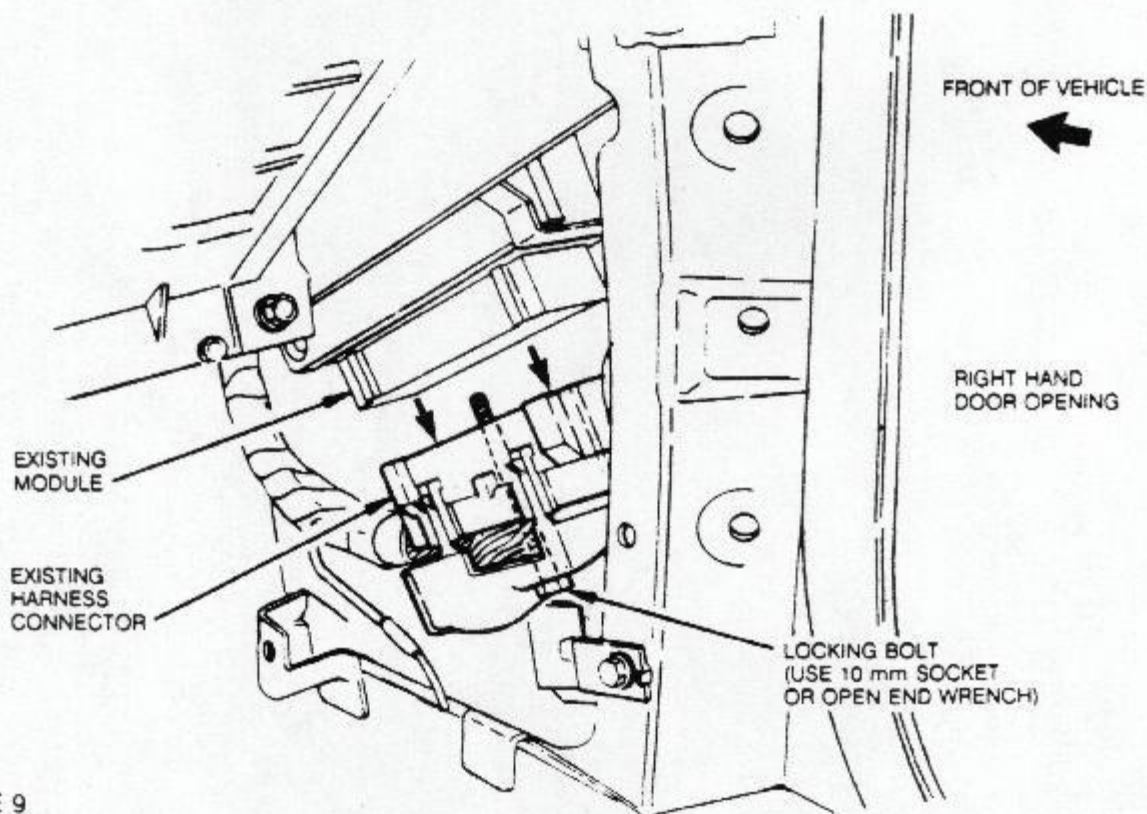

FIGURE 9
STEP 12 Disconnect the large 60 - pin connector from the existing module by loosening the locking bolt with a 10 mm socket or open end wrench and pulling gently on connector body only. Do not move harness connector out of way or pull on any of the wires as this may cause intermittent problems which are difficult to diagnose and repair. See figure 9.